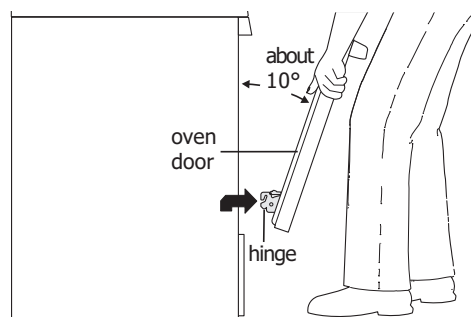

Figure 22: How to remove door
3. Firmly grasp both sides of oven door along the door sides. Do not use the oven door handle (See Figure 22).
5. With the oven door in the broil stop position, lift the oven door hinge arms over the roller pins located on each side of the oven frame (See Figure 22).
1. Firmly grasp both sides of oven door along the door sides. Do not use the oven door handle (See Figure 22).